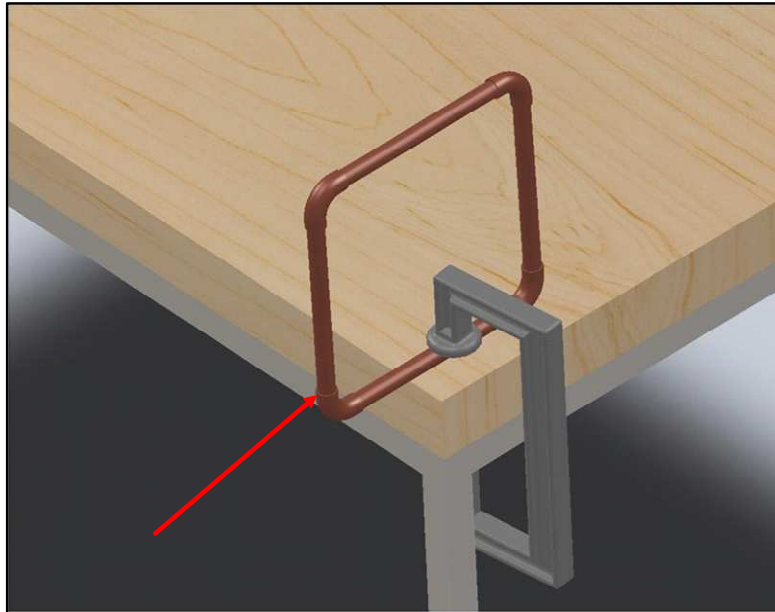

Figure 3: Setting up for soldering- The joint to be soldered should be in the position as shown in the figure.
- A. The joint that is to be soldered should always be in the position as shown in Figure 3. This will allow gravity help the solder seep down into the joint.